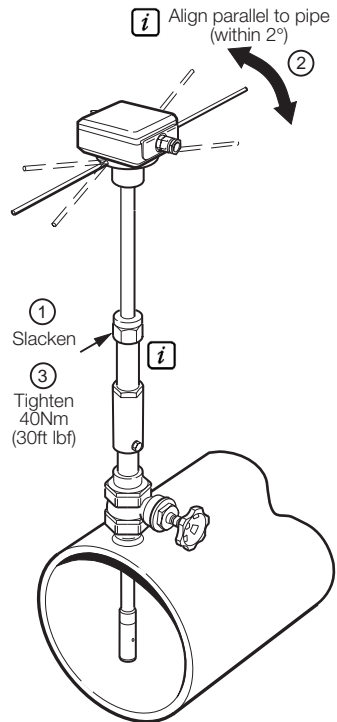

Fig. 2.15 Probe Alignment
2.7 AquaProbe Alignment – Fig. 2.15